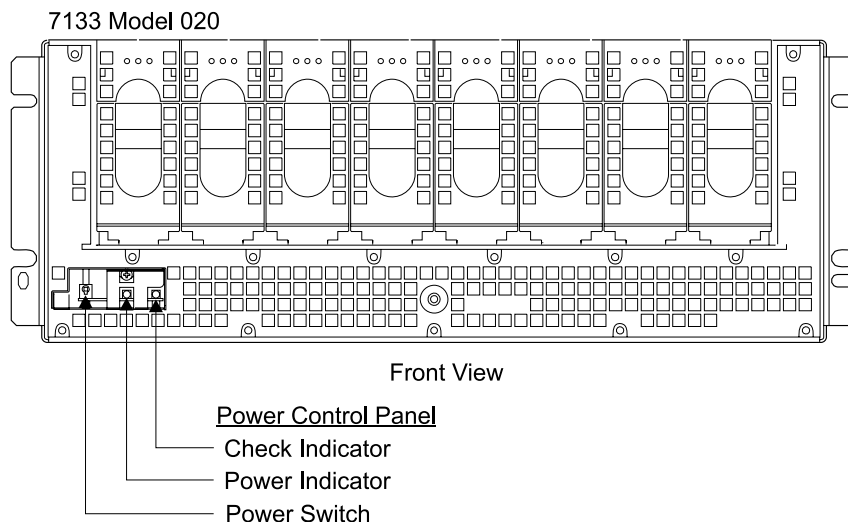

Figure 119. SSA DASD Model 020 Power Control Panel Locations (S008020m)
- d. Use Figure 119 in the following steps to locate the switch and indicators on the SSA DASD drawer power control panel: